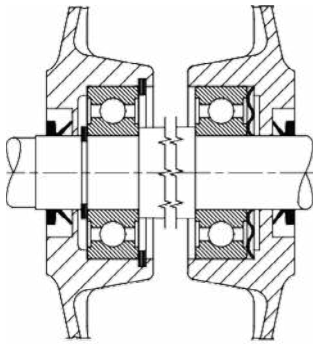

Figure 3
- Motors with frame sizes 63...280, for shaft-down mounting positions (V1-V5-V18-V15-V58-V8), are manufactured in accordance with Table 1, Table 2 and Table 3, with ZZ sealed bearings, arranged as shown in Figure 3, with the front bearing fixed (locating bearing) and the rear bearing floating (non-locating bearing), with the bearing preloading spring located at the rear.